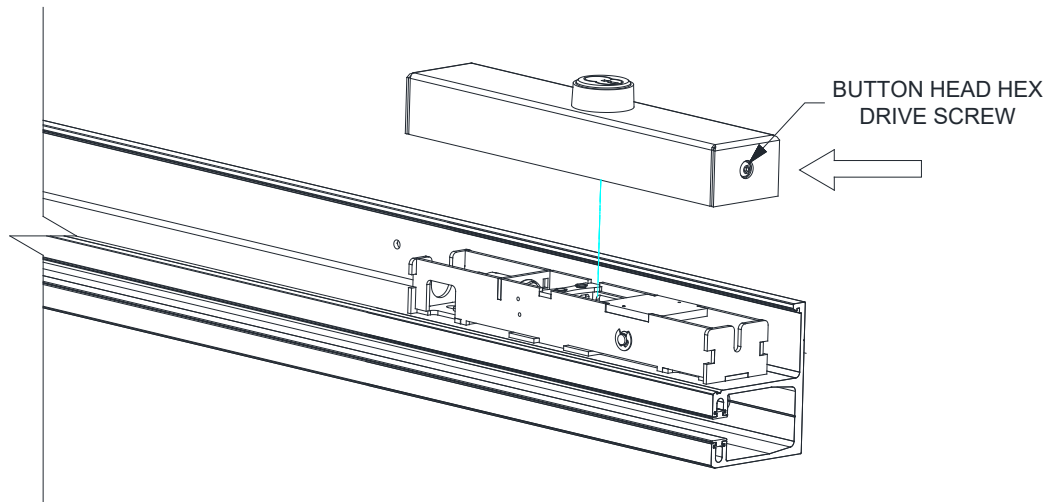

Figure 3
1. On the underside of the Auto-lock is a button head hex drive screw see **Figure 3**. **Loosen, but do not remove the screw.** The screw head should not protrude past the exterior of the cover. You can now remove the cover by pushing up and pulling the cover away from the guide.